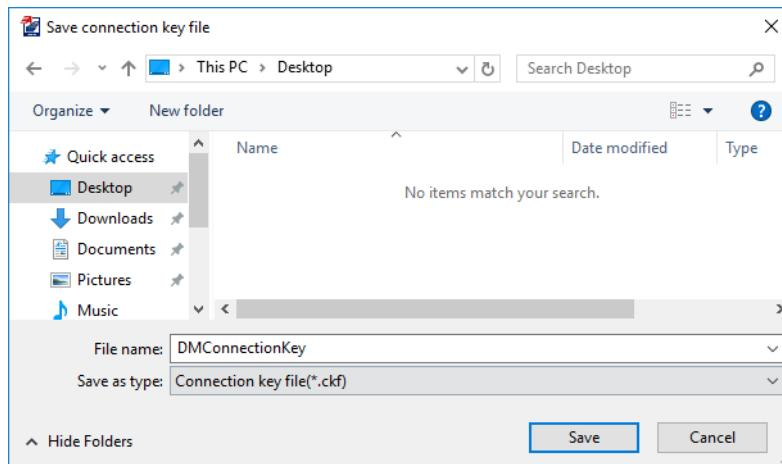

Figure 5.74 Save Connection Key
- Step 4. In the **Save connection key file** window, enter a name for the connection key that you will be sharing with clients and click **Save** (see *Figure 5.74*).